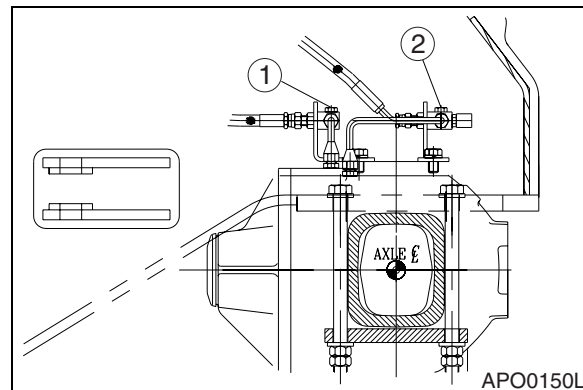

Figure 101
1. Attach gauge to brake pressure test port (1, Figure 101) on front axle.
1. Attach pressure gauge to parking brake port (2, Figure 101).